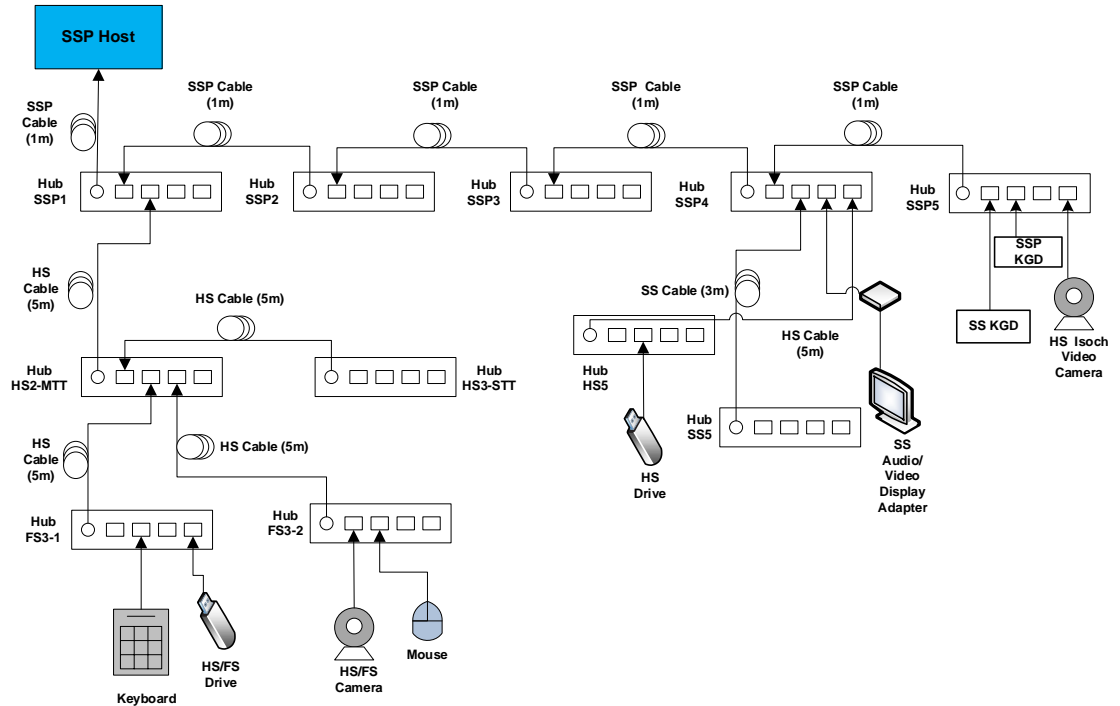

Figure 11-4: Modified SSP Host Interoperability Interim Tree (with SSP device and SSP Hubs Interop Tree)
- Connect the SSP tree as shown in Figure 11-4